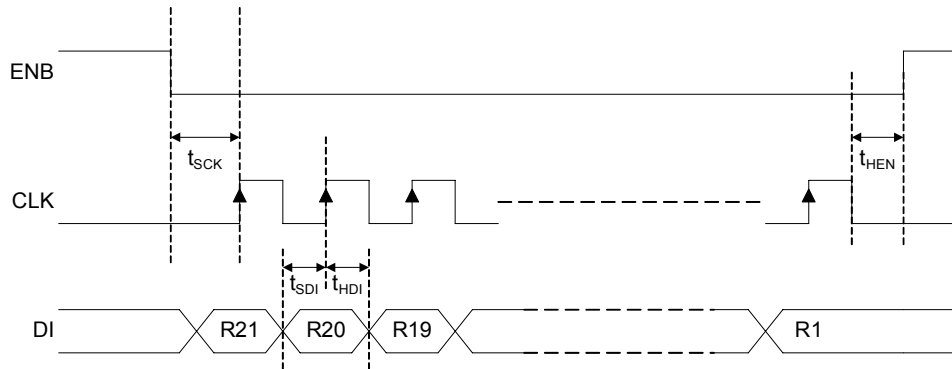

FIGURE 27. TIMING DIAGRAM FOR PROGRAMMING THE INTERNAL REGISTERS OF THE QLx4600-S30
Pins 16 (DI), 45 (ENB), and 46 (CLK) are used to program the registers inside the QLx4600-S30. Figure 27 shows an exemplary timing diagram for the signals on these pins. The serial bus can be used to program a single QLx4600-S30 according to the following steps:
The DO pin (pin 17) can be used to daisy-chain the serial bus among multiple QLx4600-S30 chips. The DO pin outputs the overflow data from the DI pin. Specifically, as data is pipelined into a QLx4600-S30, it proceeds according to the following flow. First, a bit goes into shadow register 1. Then, with each clock cycle, it shifts over into subsequent higher numbered registers. After shifting into register 21, it is output on the DO pin on the same clock cycle. Thus, the DO signal is equal to the DI signal, but delayed by 20 clock cycles. The timing diagram for the DO pin is shown in Figure 27 where the first 20 bits output from the DO are indefinite and subsequent bits are the data fed into the DI pin. The delay between the rising clock edge and the data transition is t_{CQ} .